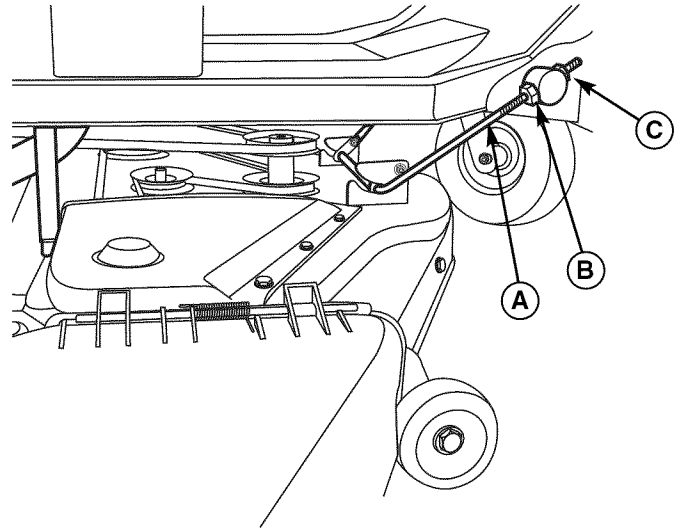

Figure 41. Front-to-Back Leveling
2. The front mower hitch rod (A, Figure 41) is used to adjust front-to-back leveling. To raise or lower the front of mower deck, loosen the two rear jam nuts (B) on both sides of the hitch rod (A). Adjust the front jam nuts (C) on both sides of the hitch rod (A) to adjust the deck level. When adjusted correctly, tighten the rear jam nuts (B) to lock hitch rod in place.